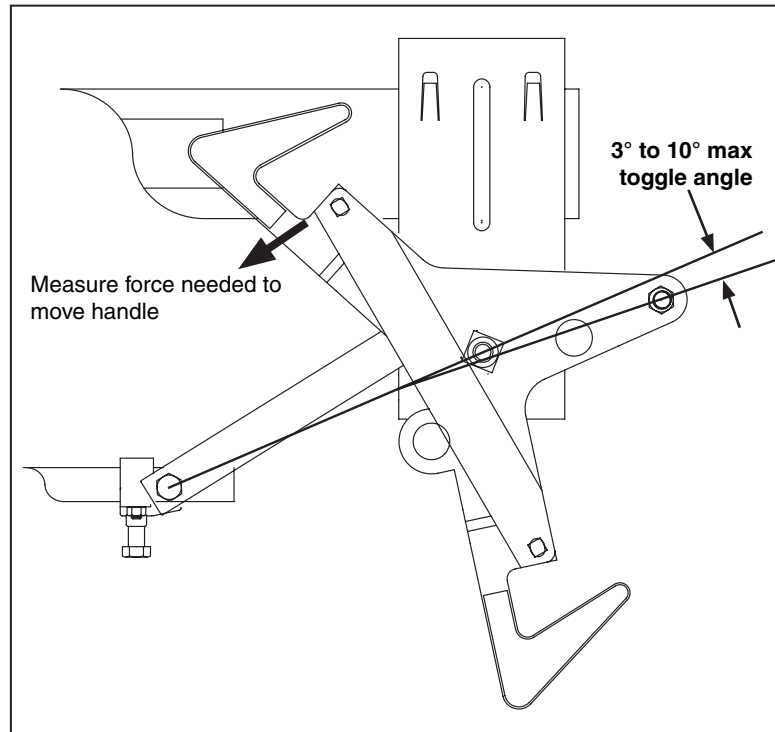

Figure 7. Upright mounting configuration.
- In the closed position, the operating handle and linkage should be in toggle as shown in Figures 7 and 8. There should be 25-35 pounds of force required to move the handle out of toggle.